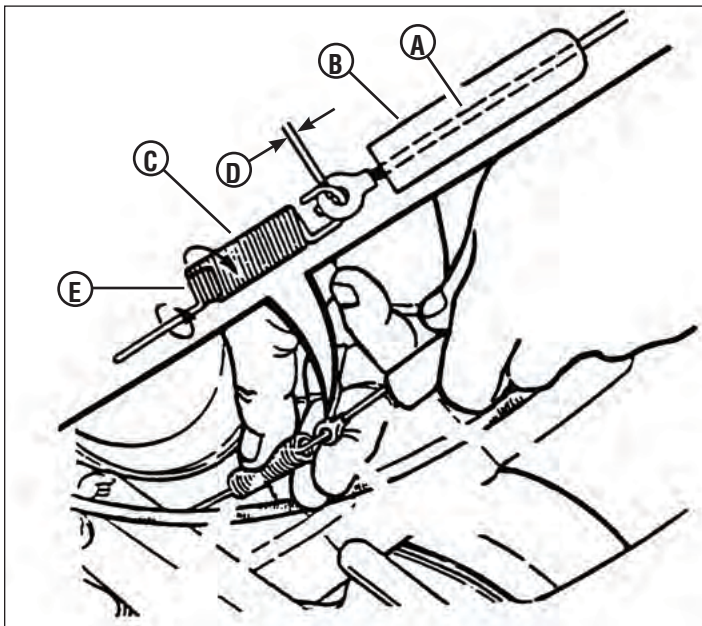

Figure 13
- Check the clearance between the clutch cable (A, Figure 13) and clutch spring (C). Slide the vinyl spring cover (B, located at the end of the clutch cable) up the clutch cable to gain access to the end of the spring and cable loop. With the wheel drive control handle released, clearance between the spring hook and cable loop should be 1/16" to 1/8" (D).